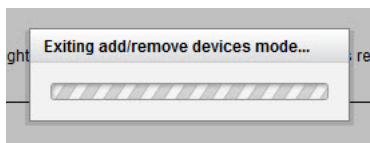

FIG. 34 Exiting Add/Remove Devices Mode
1. With the *Add Devices* page in Activation Mode, click the “Done” button. The NXB-CCG will start exiting all devices from activation (FIG. 34).